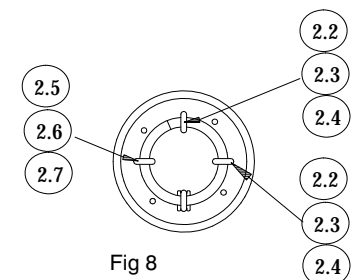

Fig 8
- ii) Place U-bolt (2.5) over the first two coils and through the base mounting. Place the remaining two U-bolts (2.2) over the first coil and through the base mounting. Secure in position with M12 nuts (2.3) and washers (2.4). (Fig 8).
- iii) Place the top mounting bracket (2.13) onto the spring assy in the position shown so that it is in line with the four fixing holes of the base plate (Figs 8 & 9).